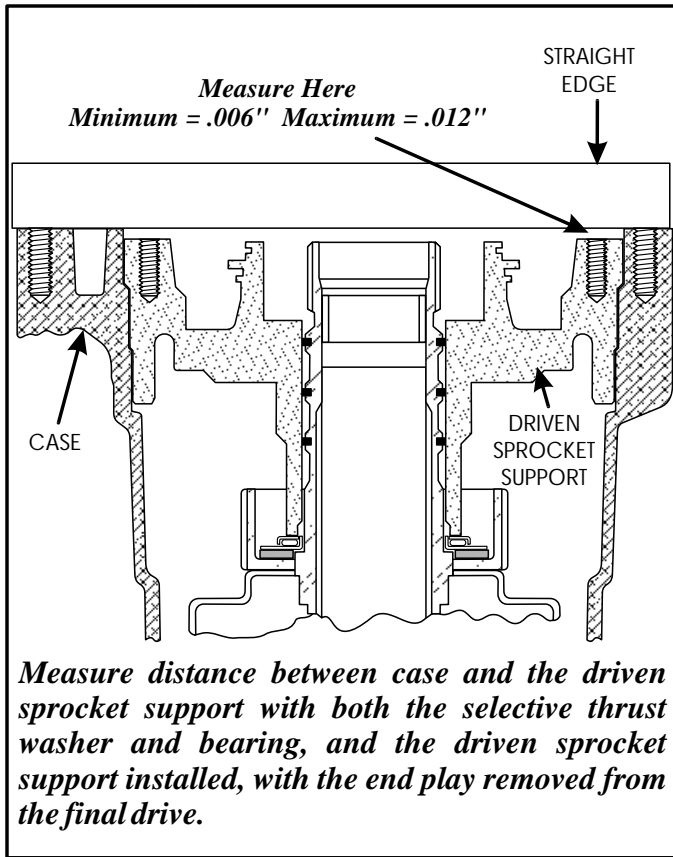

Figure 182
1. Install the selective thrust washer and the thrust bearing that came with the unit, as shown in Figure 182.
2. Install the driven sprocket support, as shown in Figure 182.
3. Measure with feeler gauge and straight edge, as shown in Figure 182, between the straight edge and the driven sprocket support.